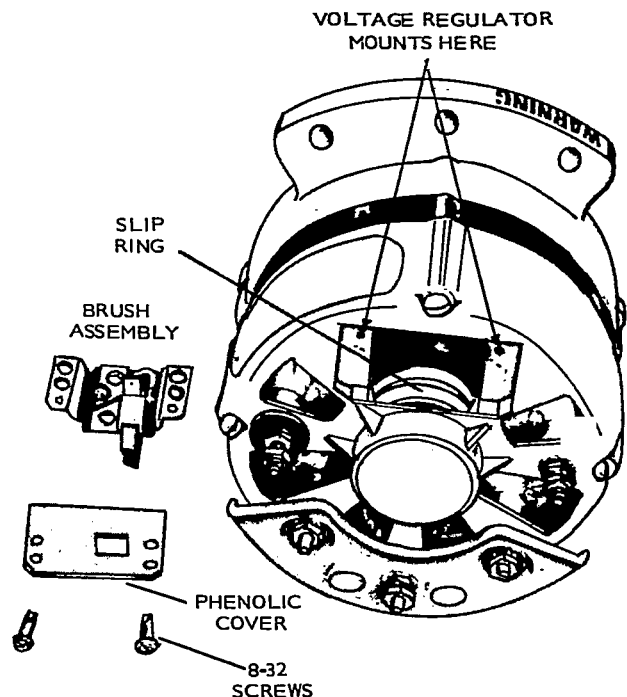

FIGURE 50. OPTIONAL, BATTERY CHARGING, EXTERNAL ALTERNATOR
5. Reverse procedure for assembly, Figure 50.